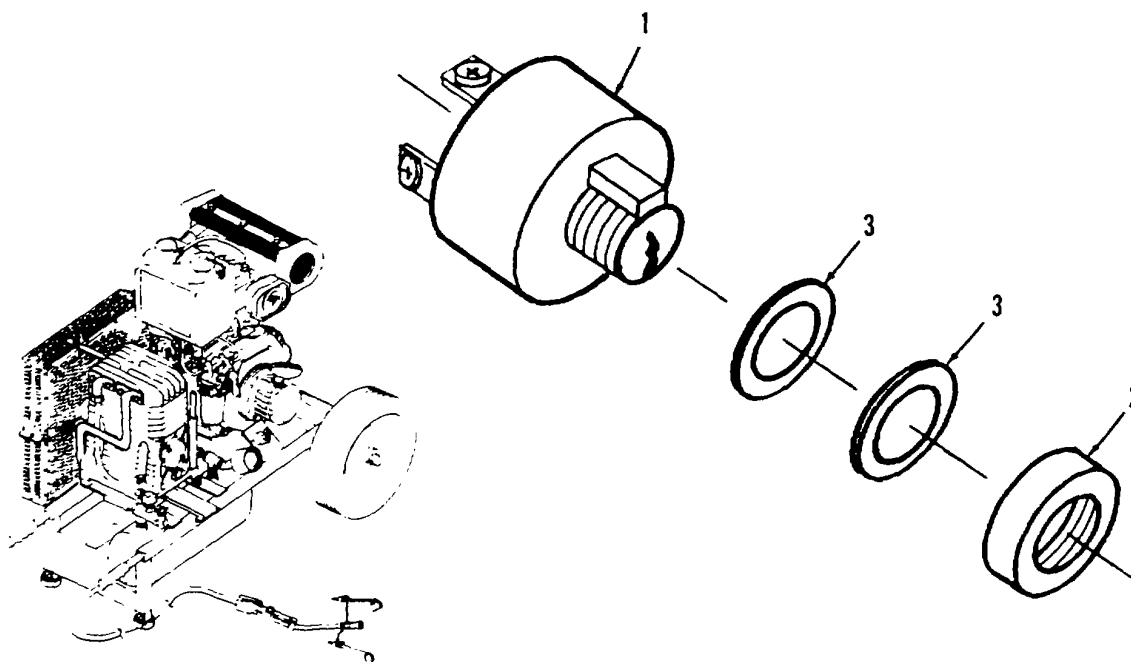

Figure 4-10. Key Switch Replacement.
- a. **Removal** (Refer to Figure 4-10).